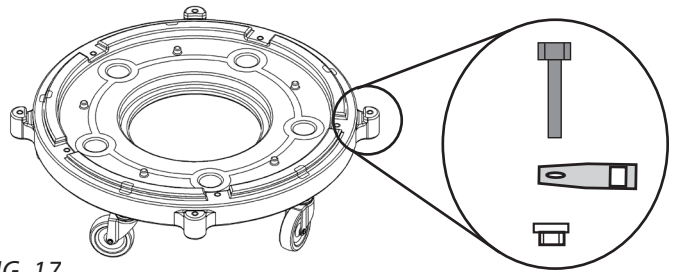

FIG. 17
- 24 Thread the Thumb Nut (R4A) onto the top of each Threaded Rod (R4C), tightening firmly against the Rubber Spacer (R4B) below it. [FIG.17]